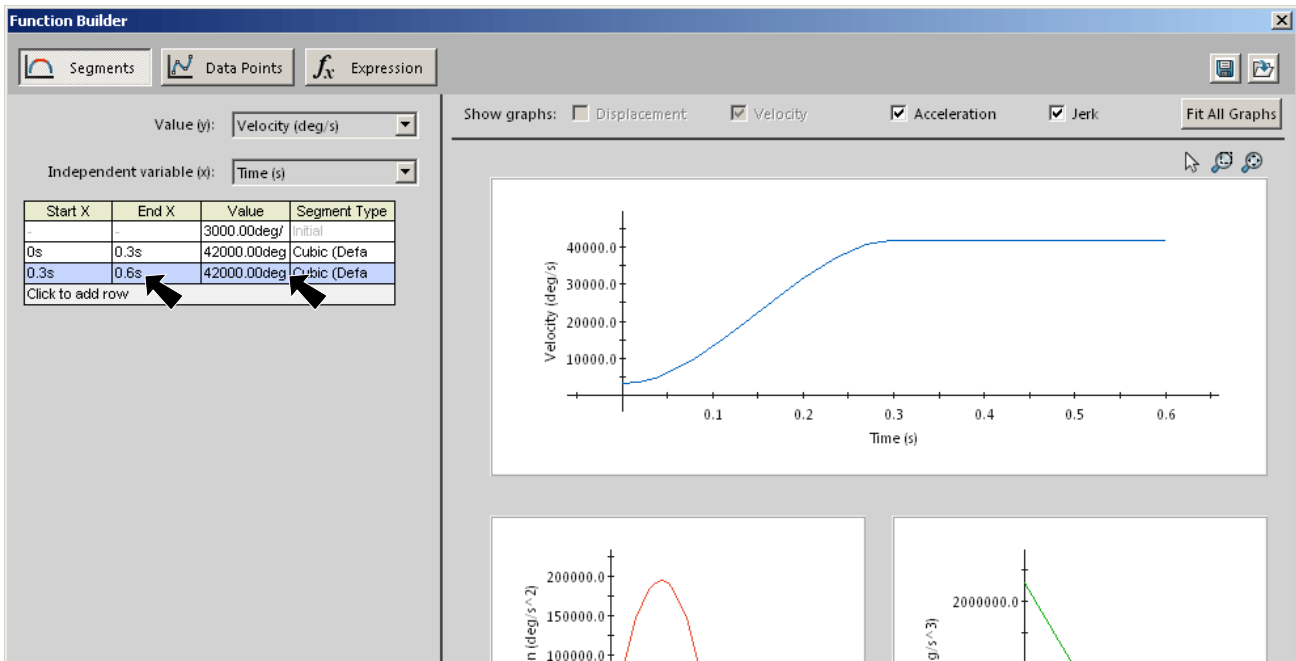

Fig. 9
Step 6. In the Segments chart, **Fig. 9**